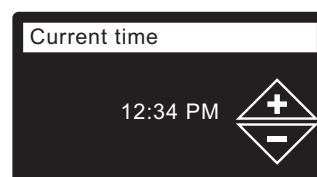

FIG. 27
11. **CURRENT TIME** Press the DOWN (▼) or UP (▲) buttons to set the current time (See Figure 27). Hold the button down to rapidly advance. Be sure that AM or PM is correct. If the system units were set to metric in Step 9, the clock will be in 24-hour format.
12. Press the SELECT (O) button.